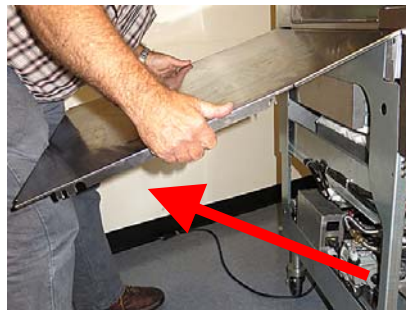

Figure 5
7. Lift upward on the side to remove (see Figure 5).